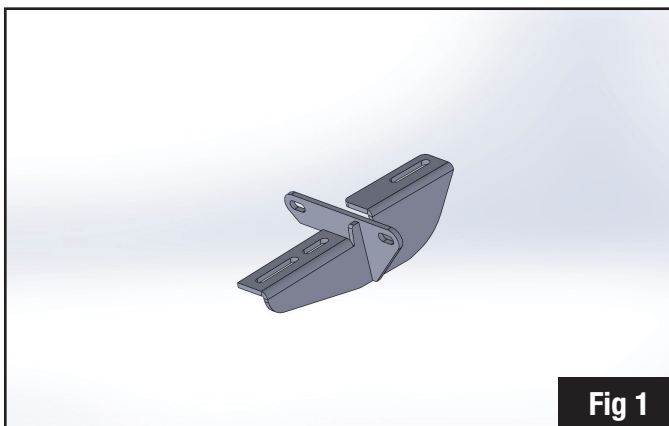
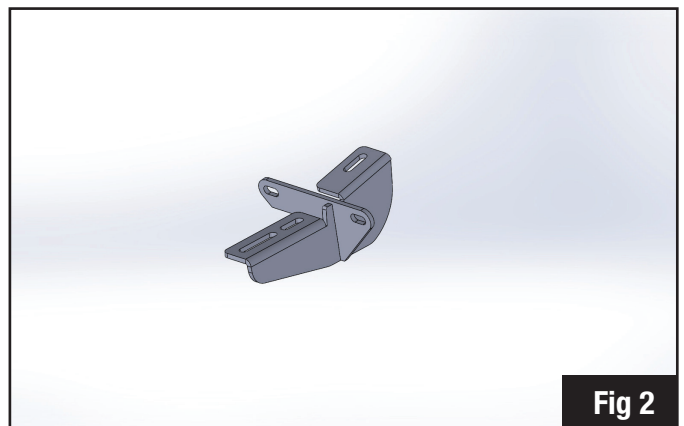

Fig 1
Fig 2
1) Separate the brackets in your kit, there are (4) front (**Fig 1** passenger side) and (2) rear (**Fig 2** passenger rear).